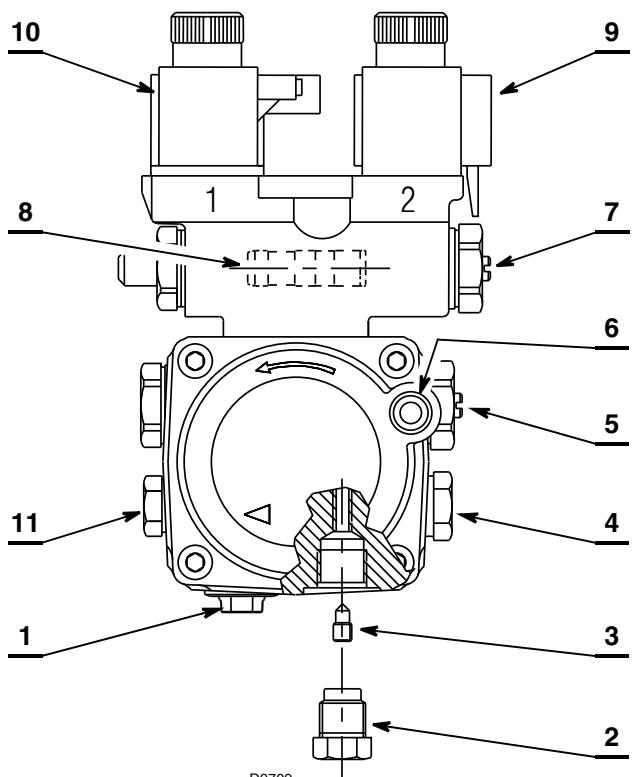

Fig. 11
- The pump (Fig. 11) is suitable for two-pipe operation. For single pipe operation it is necessary to loosen the return line nut 2), remove the by-pass screw 3), then retighten the nut 2) (Fig. 11).
The closure plug of the oil supply (Suction line 1) (Fig. 11) is plastic. Once removed, you must throw it away and not re-use it under any circumstances. In one-pipe systems, the plug supplied on the return line 2) of the pump is steel.
Key (Fig. 11)
It is sufficient to loosen the vacuometer connection 6) (Fig. 11) and wait until fuel flows out.